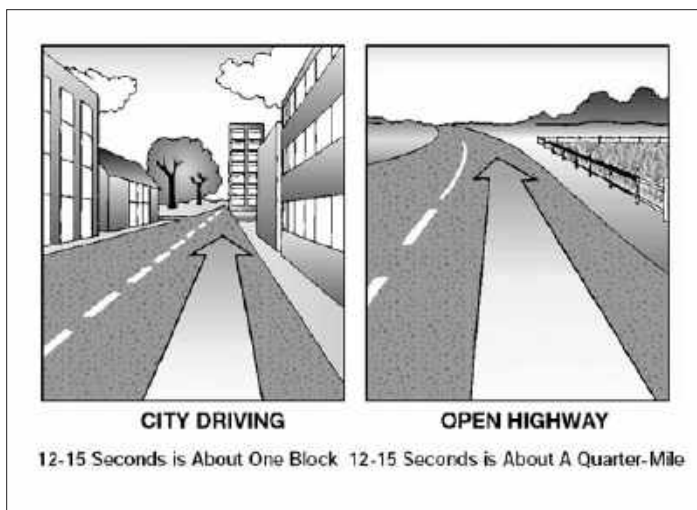

Figure 2.6
**How Far Ahead to Look.** Most good drivers look at least 12 to 15 seconds ahead. That means looking ahead the distance you will travel in 12 to 15 seconds. At lower speeds, that’s about one block. At highway speeds it’s about a quarter of a mile. If you’re not looking that far ahead, you may have to stop too quickly or make quick lane changes. Looking 12 to 15 seconds ahead doesn’t mean not paying attention to things that are closer. Good drivers shift their attention back and forth, near and far. Figure 2.6 illustrates how far to look ahead.